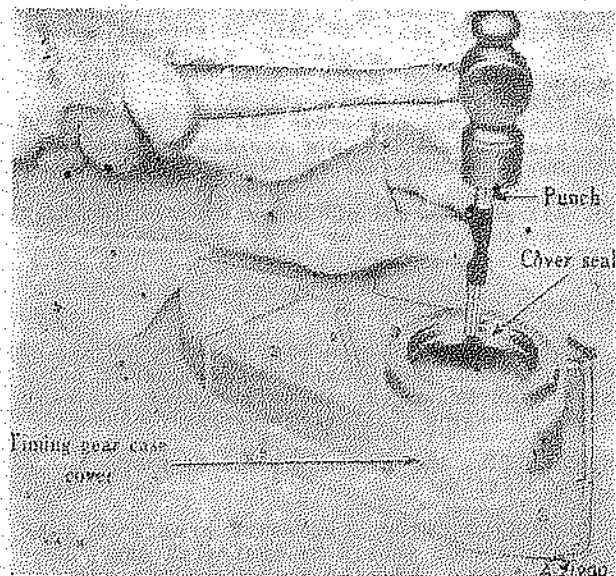
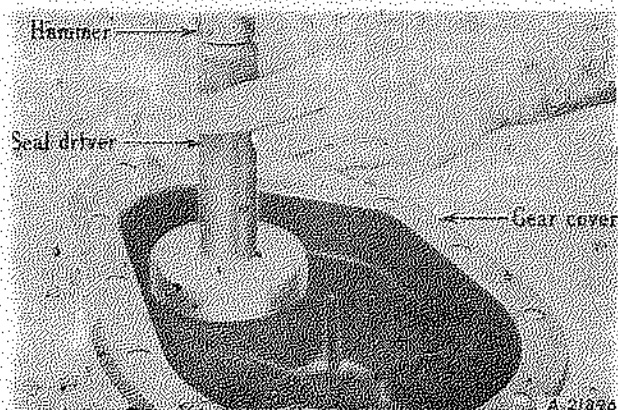

Fig. 44
Fig. 45 - Use a seal installing tool
7. Inspect engine gear case cover, and replace if cracked or broken. Remove old cover seal (Fig. 44) and with special driver install new seal (Fig. 45).